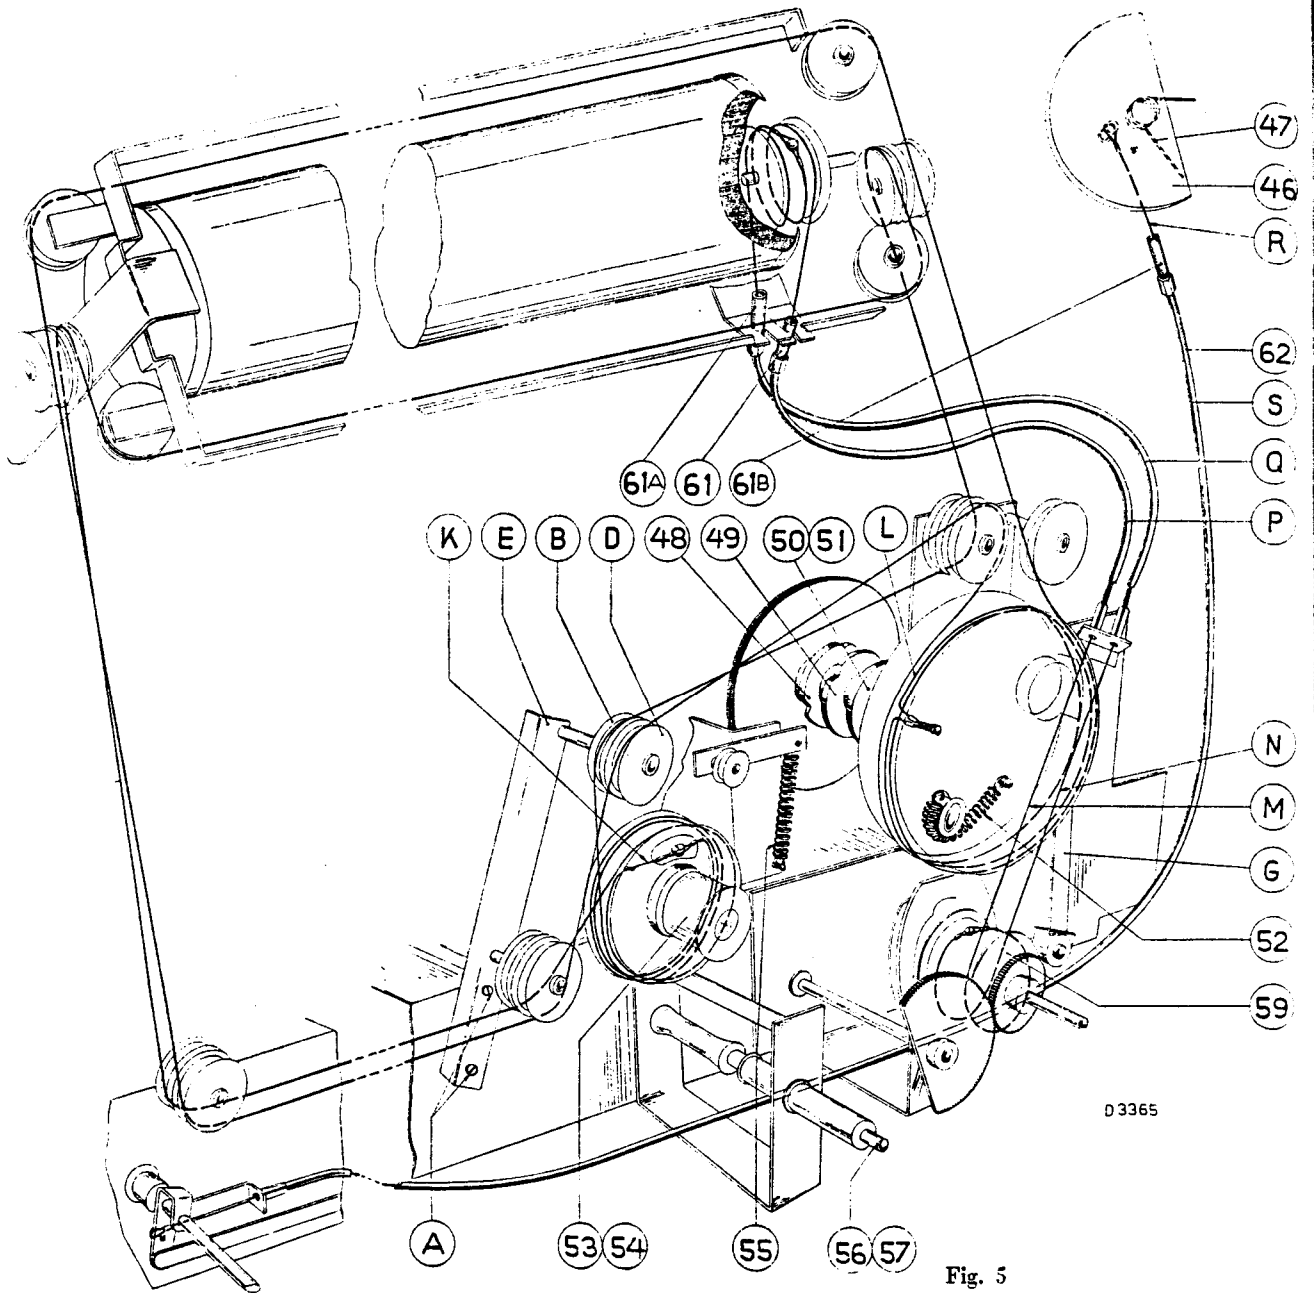

Fig. 5
- . Slightly loosen screws A (fig. 5). Take the strings off the wheels B and D (let them rest on the spindle behind the wheels).
The nipple of the stretching device of the pointer strings must be fitted in such a way that the thin end falls into the central hole of the plate before it. This plate must slide lightly over the hairpin on the stretching plate. If necessary slightly bend the hairpin. The run of the cables is shown in fig. 5 and 6.
The wire which runs from the dial to the drum of the triple tuning condenser is wound one turn less around the drum than indicated in fig. 5.